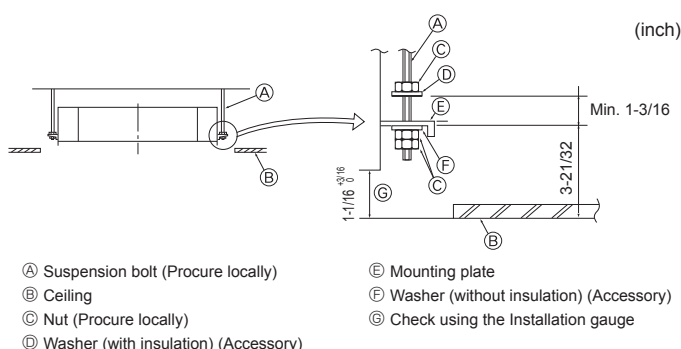

Fig. 3-5
3.5. Unit suspension procedures (Fig. 3-5)